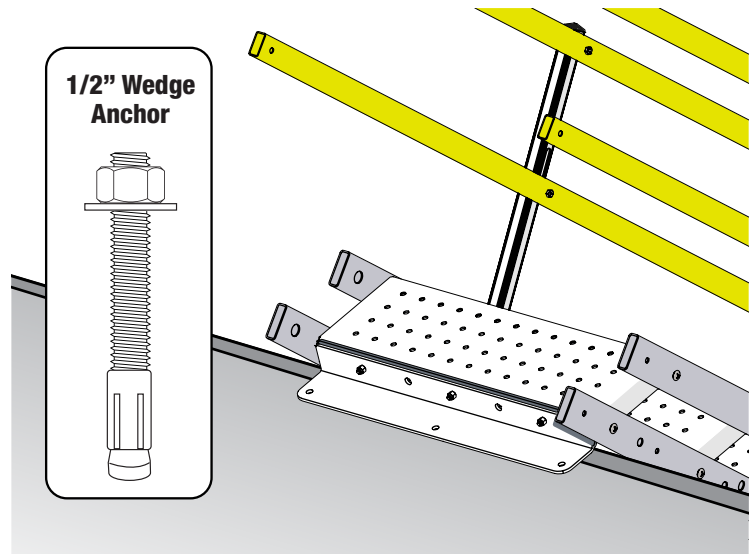

Fig. 16-1
6. From the top work surface remove the top brace fasteners. As shown in Fig.16-1.